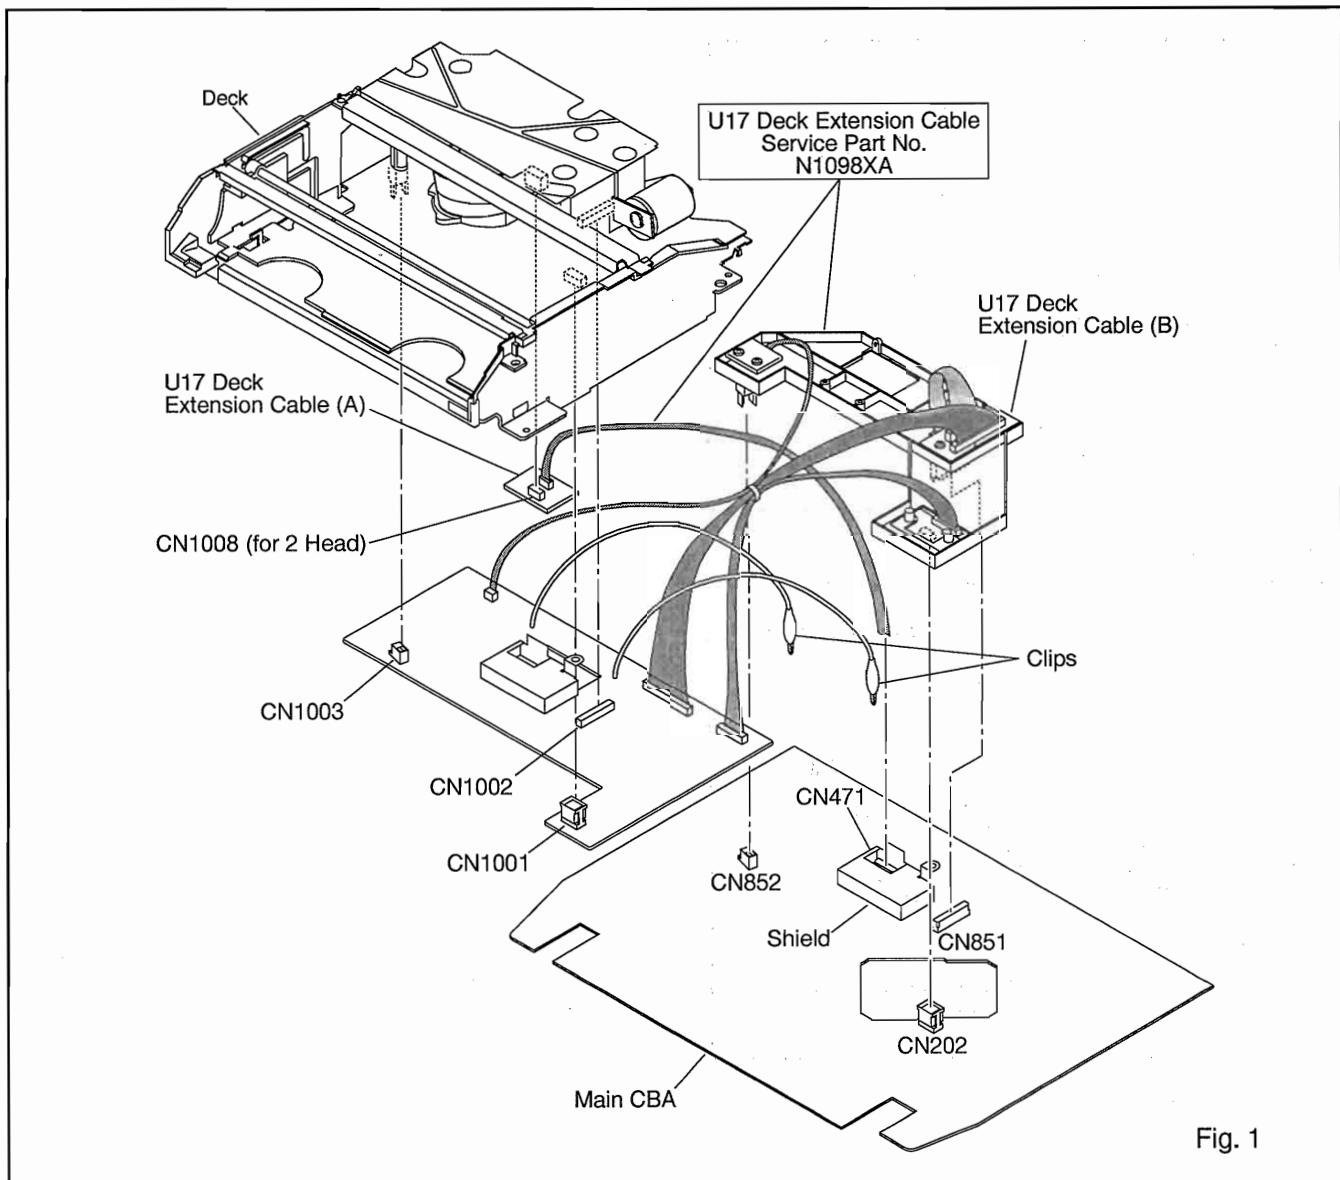

Fig. 1
(2) Connect Main CBA and Deck with the U17 Deck Extension Cable (A) as shown in Fig. 1. And connect Main CBA and Deck with U17 Deck Extension cable (B) as shown in Fig. 1. Connect the 2 clips to the Shield plate on the Main CBA.